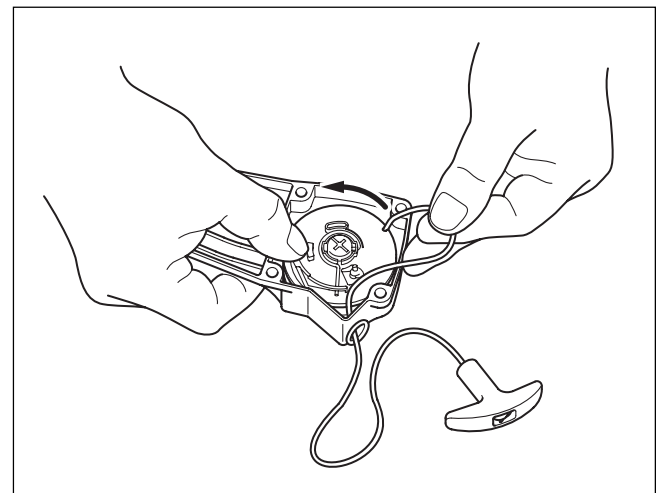

Fig. 9-5
- (3) Prior to installing the reel in the starter case, wind the starter rope to the reel in the arrow direction of Figure 9-5, take out the third turn of the starter rope from the reel notch and then install the reel securely inside the starter case so that the spiral spring inner end catches the hook. Next, hold the starter rope as shown in Figure 9-5, and rotate the reel 4 to 5 turns in the arrow direction by utilizing the reel notch. After winding the reel, hold it securely to prevent it from reverse turn and pull out the starter knob to stretch the rope tight and then release the knob slowly. Rassemble the parts in reverse order of disassembling shown in Fig. 9-2. Tighten the setscrew securely.